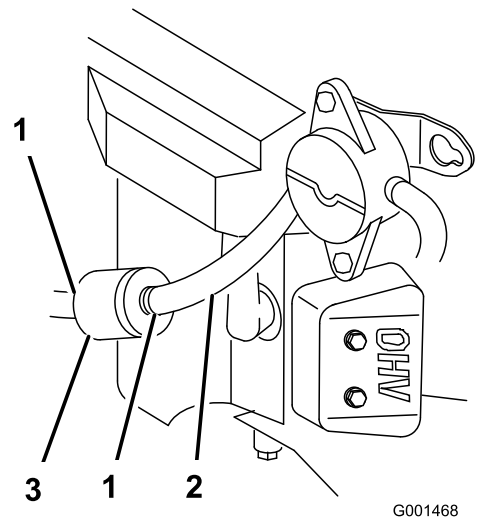

Figure 30
4. Squeeze the ends of the hose clamps together and slide them away from the filter (Figure 30).